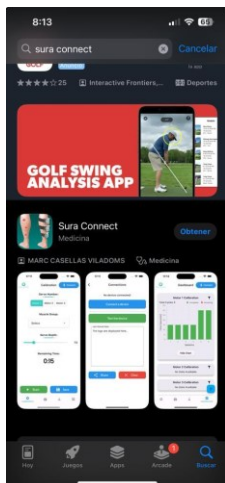

Figure 5.2.5
- Download the Sura Connect app in your iOS or Android mobile phone (see Figure 5.2.5).